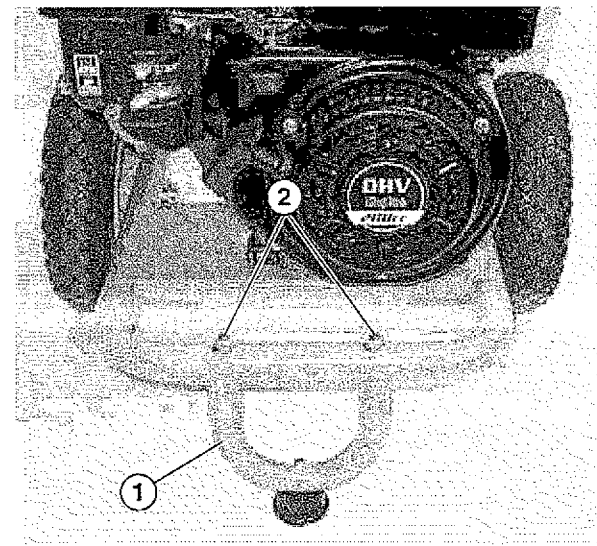

Figure 21 – Installing Front Support
7. Install the front support using the two front support nuts (M8). Tighten the nuts securely (see Figure 21).